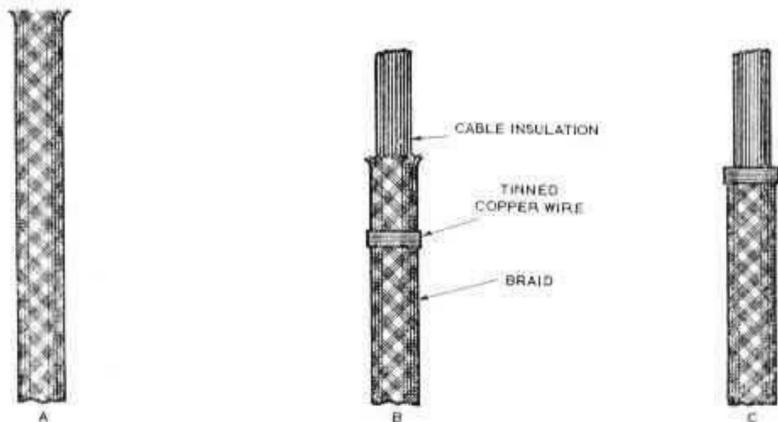

Fig. 18. Preparation of ends of screened cable
**64.** Cut the screened cable to length (fig. 18(A)). Strip the braid to a suitable length and wind five turns of 33 s.w.g. tinned copper wire some distance from the end (fig. 18(B)); lightly solder the wire to the braiding, taking care not to damage the cable insulation. Trim the braid so that no sharp ends or frays are left (fig. 18(C)).